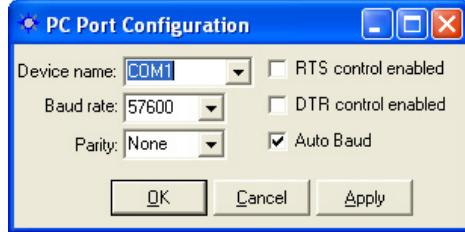

Figure 5: PC Port Configuration Window
| | Configure PC COM Port (see Figure 5) | | View Satellite Status - Message 0x86 (see Figure 93) |
3. Click the  icon on the toolbar to establish communications between the PC and the GPS receiver. The *PC Port Configuration* window opens (see Figure 5).